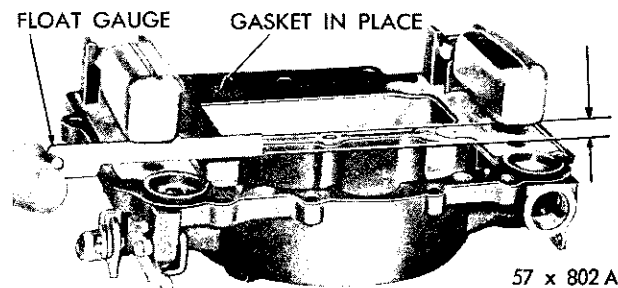

Fig. 31—Checking Float Height
(1) With the air horn inverted, the air horn gasket in place and the float needle seated, slide float gauge Tool T109-106 (7/32") between the top of the float (at outer end) and the air horn gasket, as shown in Figure 31. Float should just touch gauge.
(2) Check the other float in the same manner. If an adjustment is necessary, bend the float arm using Tool T109-22, until correct clearance has been obtained. After bending arm, recheck the float alignment.